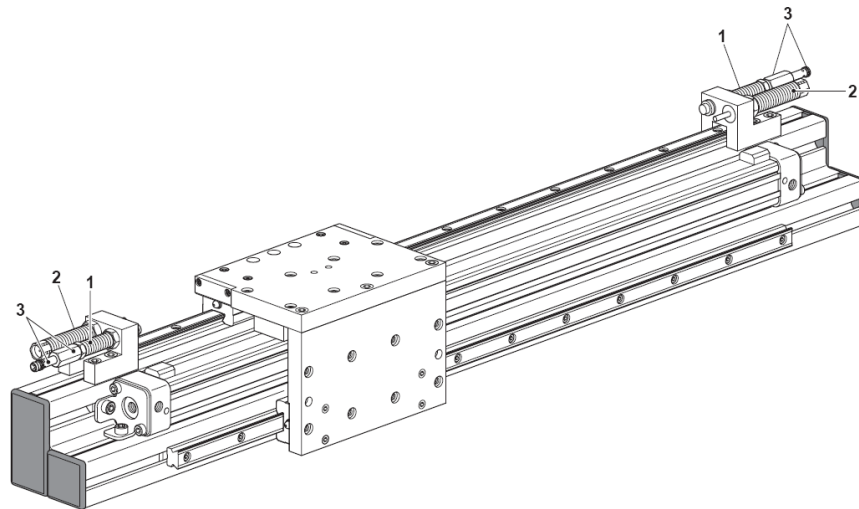

Fig. 20 Adjustment of stop screws PMP version 01
3. Adjust the stroke length using the stop screws (Fig. 20, 1) (⇒ chap. 6.6).
4. Adjust the shock absorber (Fig. 20, 2) (⇒ chap. 6.7).
5. Mount the proximity switches (Fig. 20, 3) (⇒ chap. 6.8).